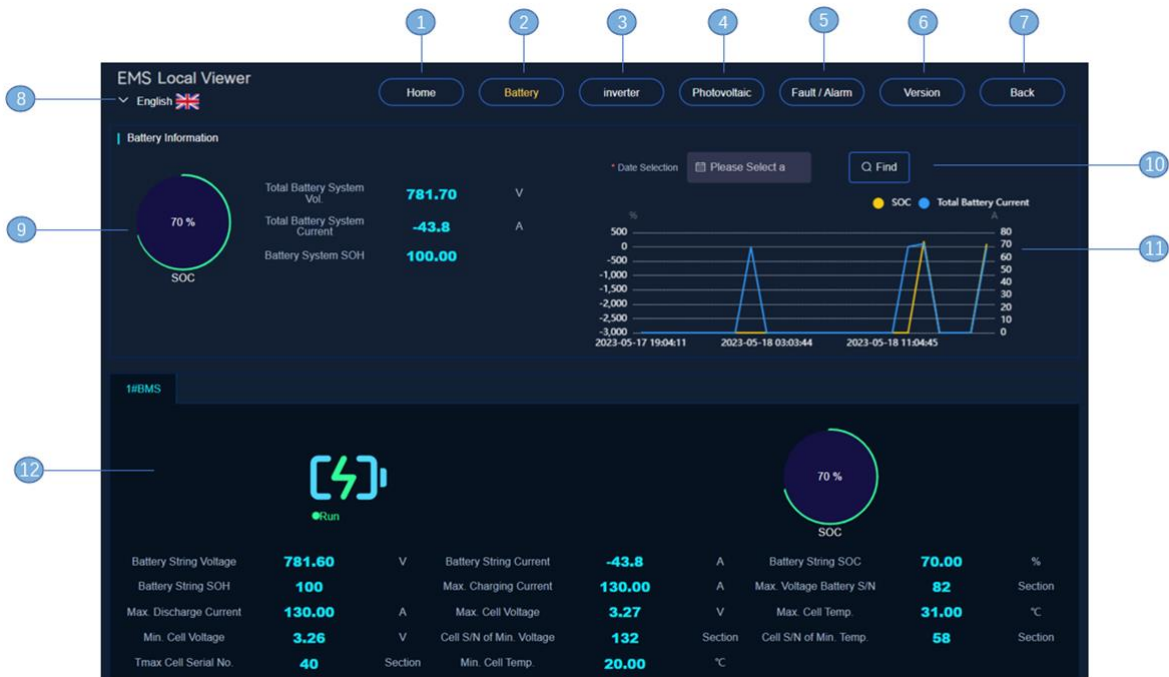

Fig. 7-7 Local web system battery information page
6. Click the "Battery Information" button, i.e., button 2, to enter the specific device battery information page, you can view the specific operation of the battery, the weapon can select the date to view the battery's SOC and battery pack current, Figure 7-7 shows.